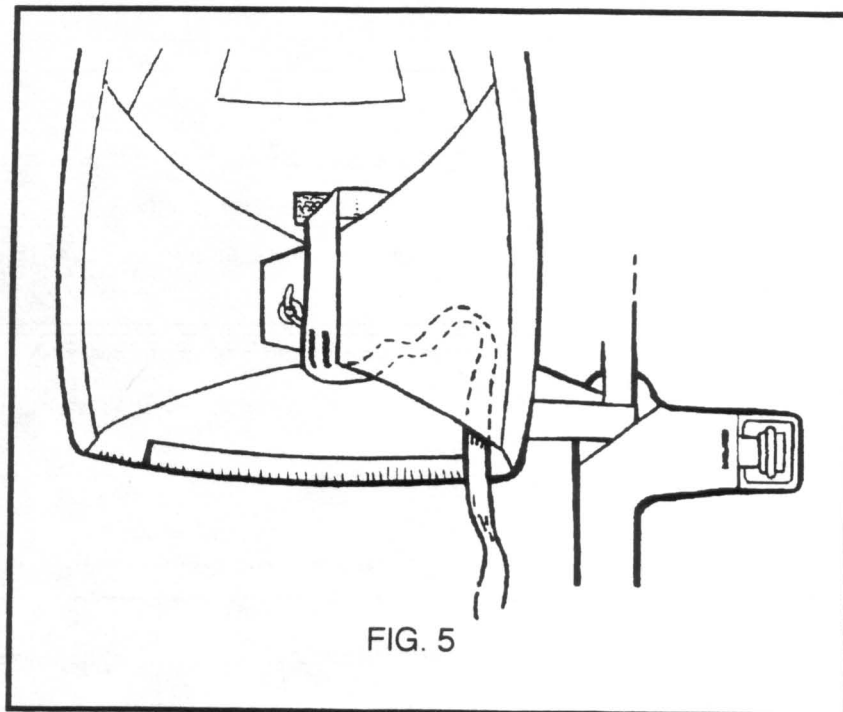
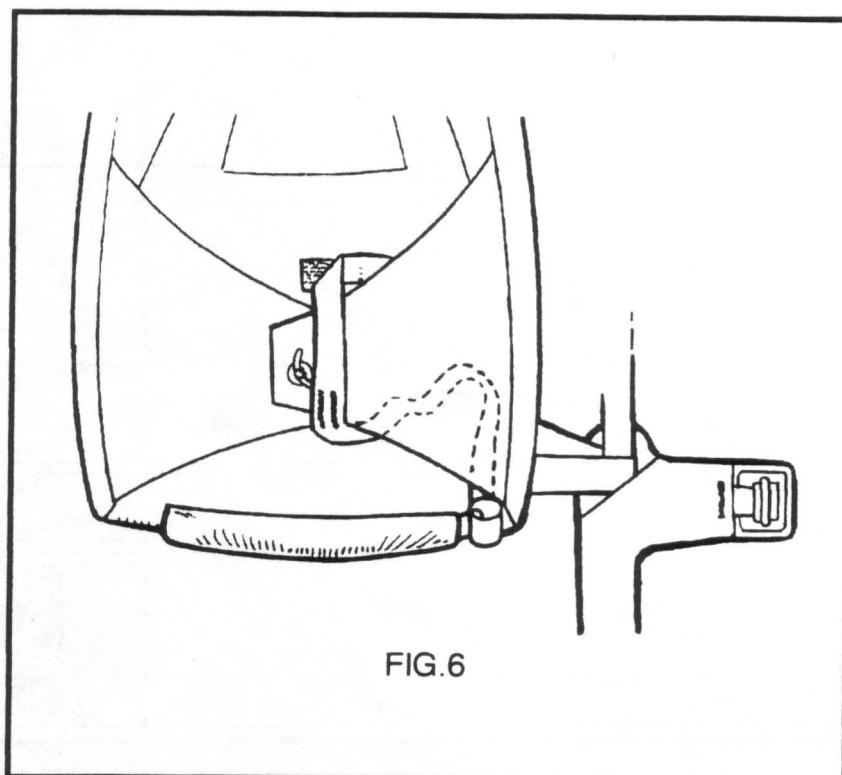

FIG. 3
FIG. 4
- 2) Fold the pilot chute into thirds (FIG. 3), and then roll it tightly into a cylindrical shape the tighter, the better, (FIG. 4).